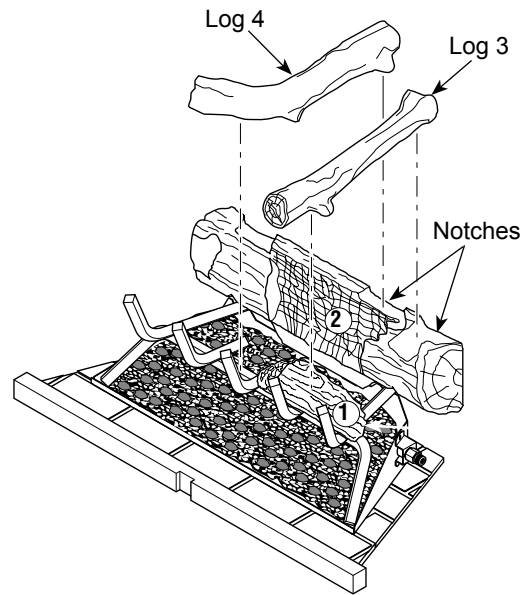
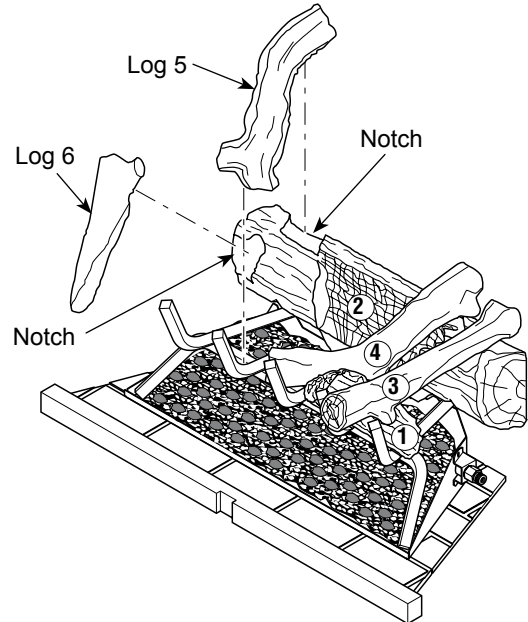
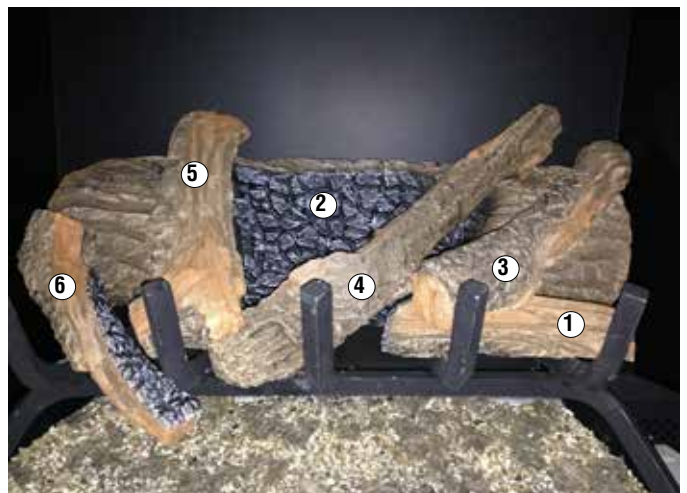

Figure 24 - Installing Logs 3 and 4
Figure 25 - Installing Logs 5 and 6
Figure 26 - Logs Installed for 36" Models
3. Place log 3 into notch on log 2, resting front end on top of log 1 (see **Figure 24**).
4. Place upper end of log 4 into notch on log 2 as shown in **Figure 24**. Rest lower end of log 4 onto middle grate finger as shown in **Figure 25**.
5. Place upper end of log 5 into notch on left of log 2 (see **Figure 25**). Rest lower end of log 5 on grate as shown in **Figure 26**.
6. Insert lower end of log 6 between first two grate fingers as shown in **Figure 26** and position upper end of log 6 into notched area on front of log 2 as shown in **Figure 26**.